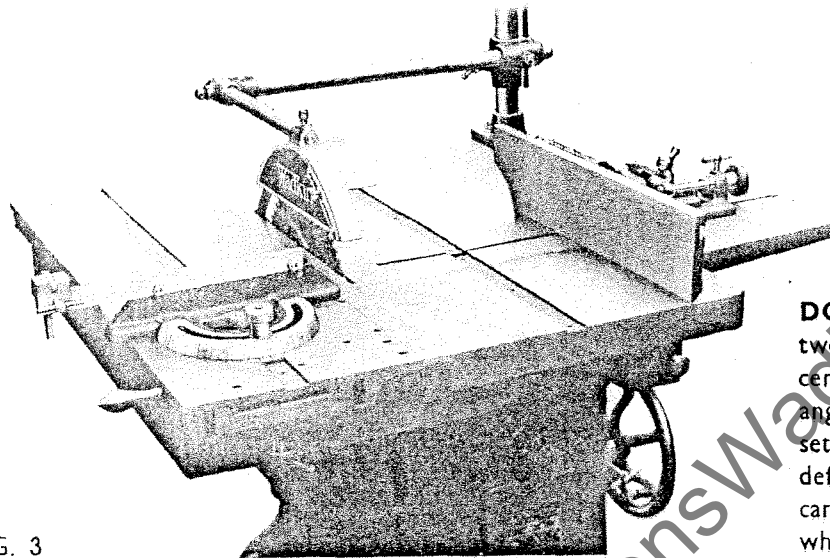

FIG. 3
**CROSS CUTTING FENCE** in Fig. 3, is used for both square and angular work and can be used either side of the saw in the table grooves. A bar and stop determines the exact length of the timber cut off.